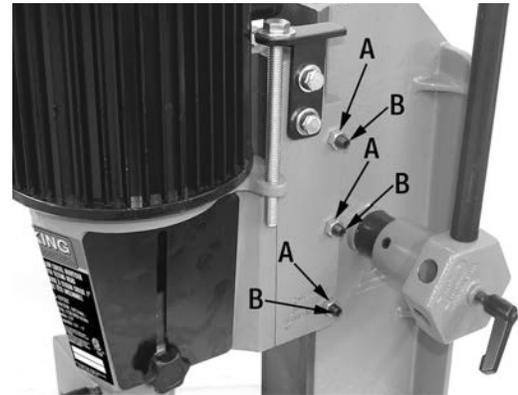

FIGURE 22
Loosen hex. nuts (A) Fig.22 which secure the adjustment set screws (B). Screw in set screws until movement is eliminated. Once adjustment is done, retighten hex. nuts.